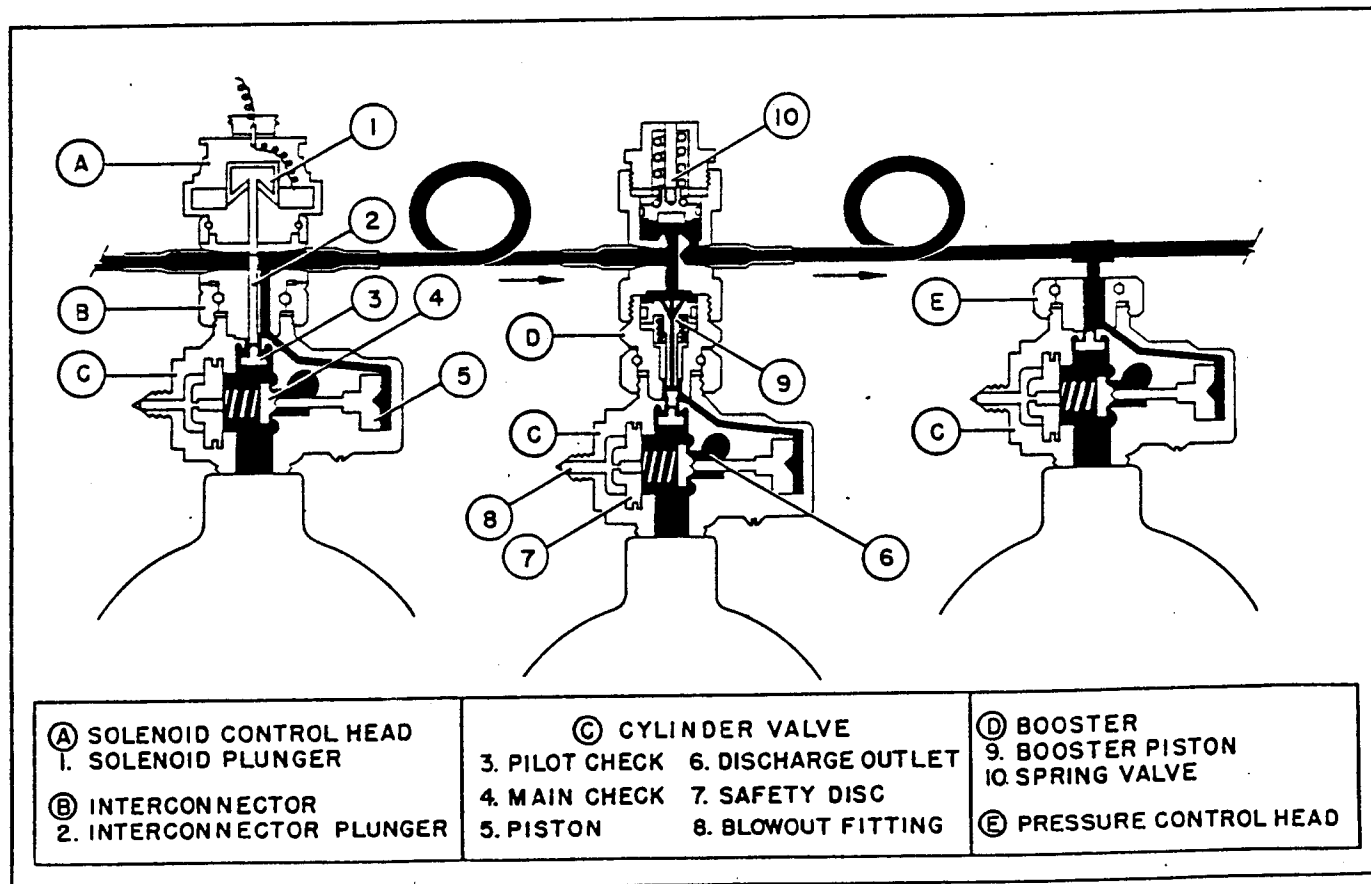

Figure 7. Operation Of Discharge Units
2. OPERATION. (See figure 7.)- Each discharge unit of approximately 15 cylinders is controlled by one solenoid head